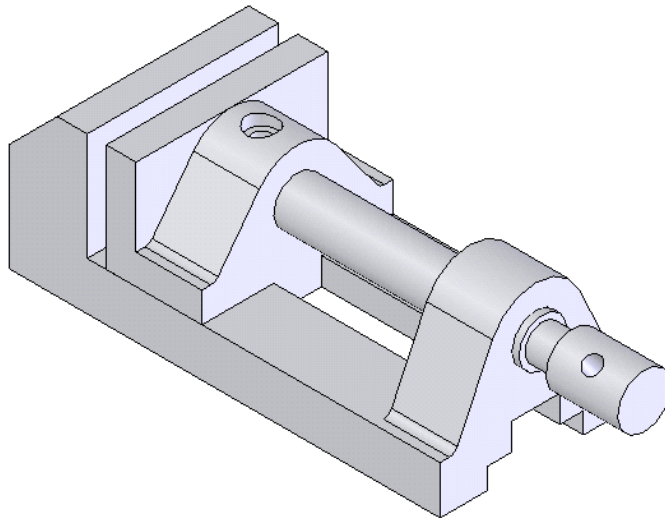

Figure 10-65 After applying the coincident mate to the jaw screw
9. Choose the **OK** button from the **Mate PropertyManager**. The assembly after adding the **Coincident** mate is displayed in Figure 10-65.